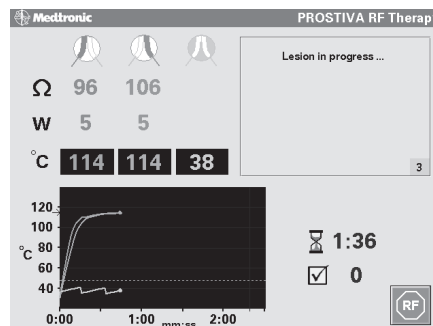

Figure 4-12. Confirm “Lesion In Progress” and Monitor Outputs on Screen Display
12. Confirm that the “Lesion In Progress” message appears on the screen display (Figure 4-12), and monitor the various outputs (eg, temperature, lesion time) during the procedure.